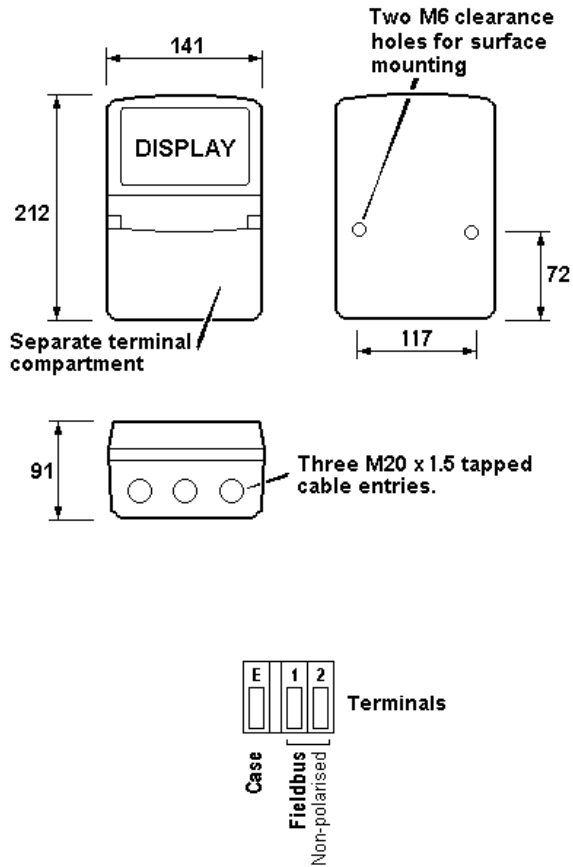

Fig 3 Dimensions and terminal connections
- Connect the field wiring to the terminals as shown in Fig 3. Field wiring must be suitable for continuous use at the maximum operating temperature.
Connection	2.3; Fig 3